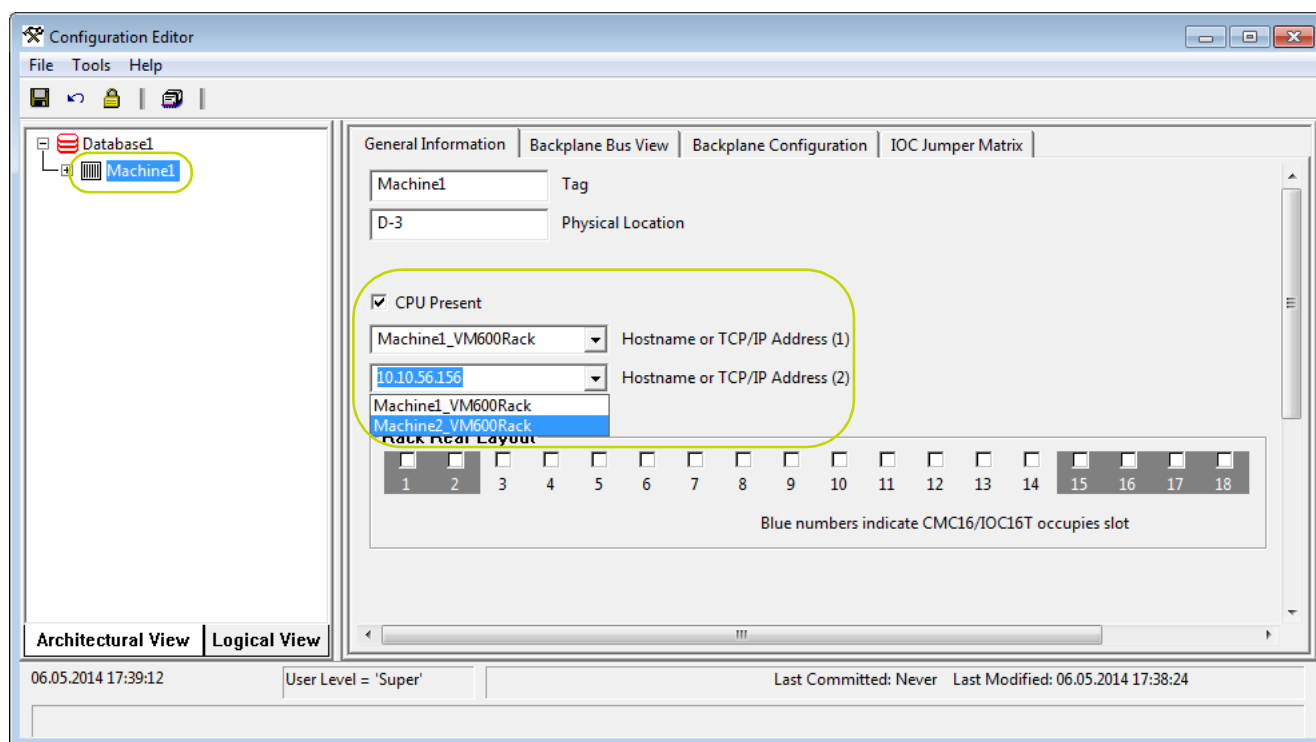

Figure 4-8: Using hostnames in the VM600 CMS software
- 2- In the **Architectural View** tree structure (left), select a VM600 rack as shown in Figure 4-8.